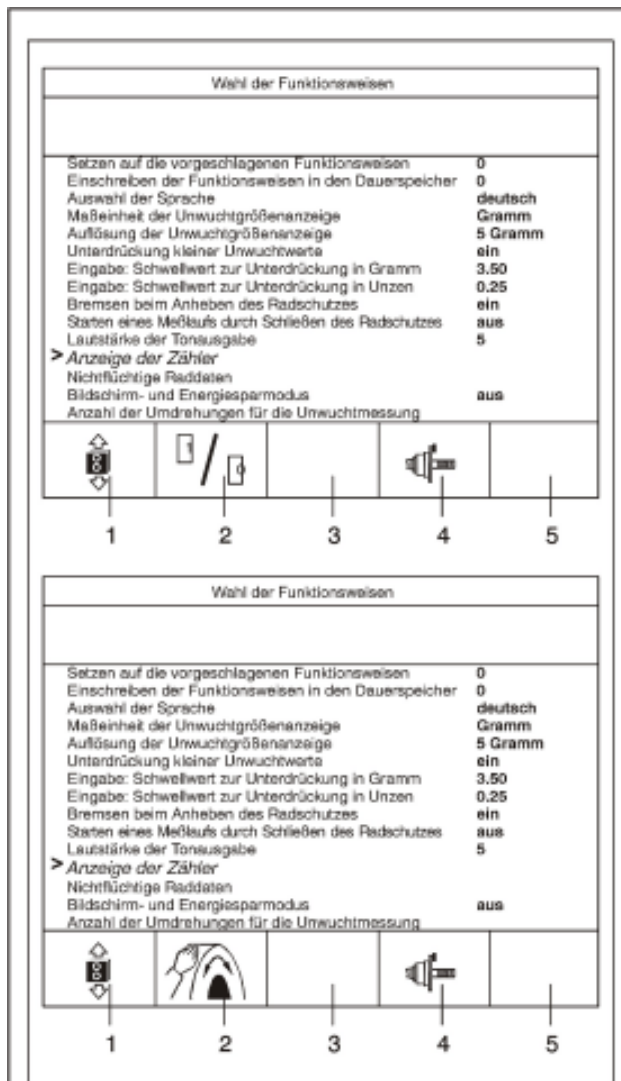

Fig. 68
A screen as in Fig. 68 „Selecting modes of operation,“ appears with the modes of operation which can be changed, either by setting their status to 0 or 1, or by pressing the relative menu key and rotating the wheel (to change their value).
- Starting from a screen as in **Fig. 68** choose the mode of operation „Counter readings,“.
- Starting from a screen as in Fig. 68 press menu key 4.